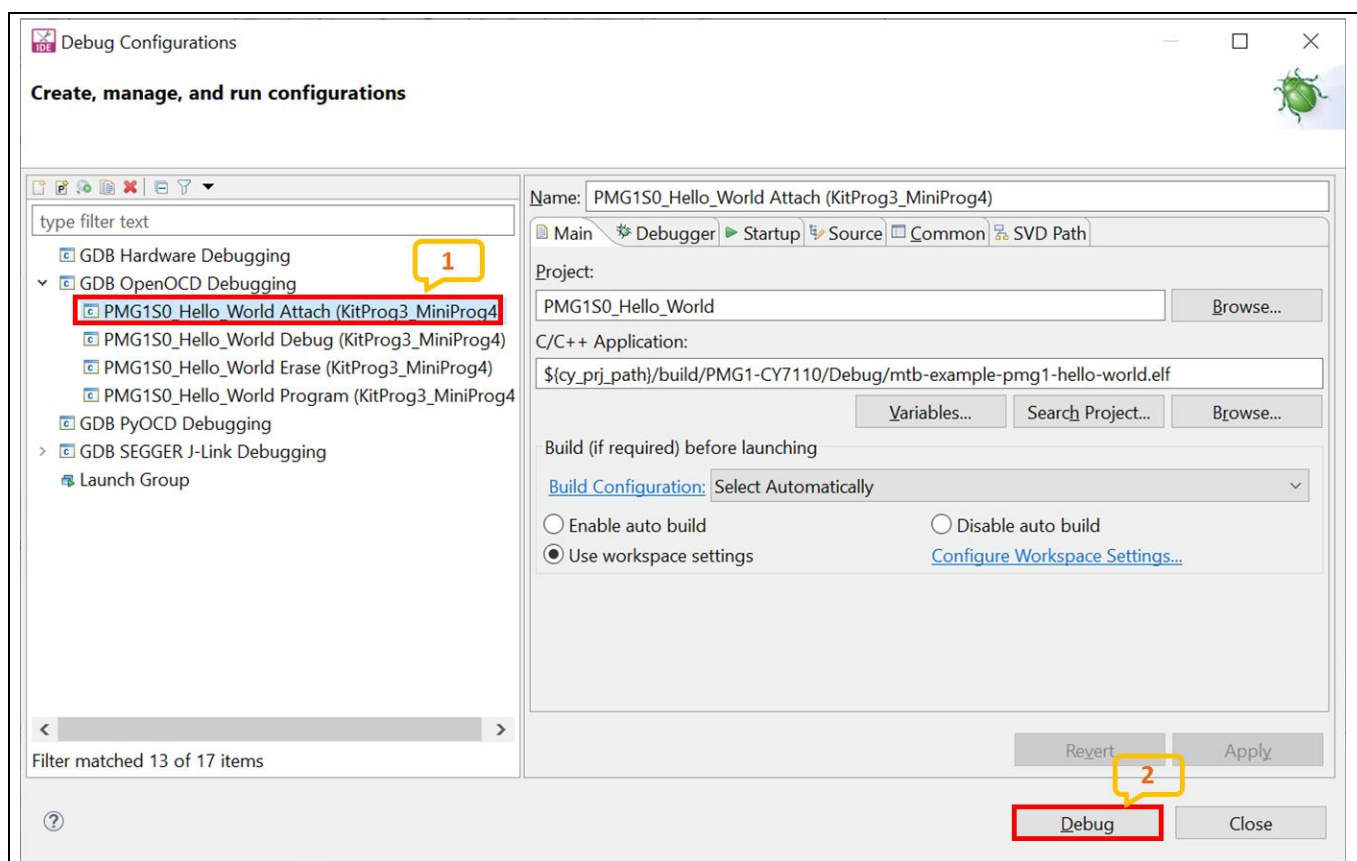

Figure 26 Selecting Debug Attach and starting a debug session
8. Under GDB OpenOCD Debugging, select **<Application name> Attach (KitProg3_MiniProg4)** and click on **Debug** as shown in Figure 26. This will start a debugging session attaching to a running target without programming or reset. For more information on debug configurations refer ModusToolbox™ software user guide.